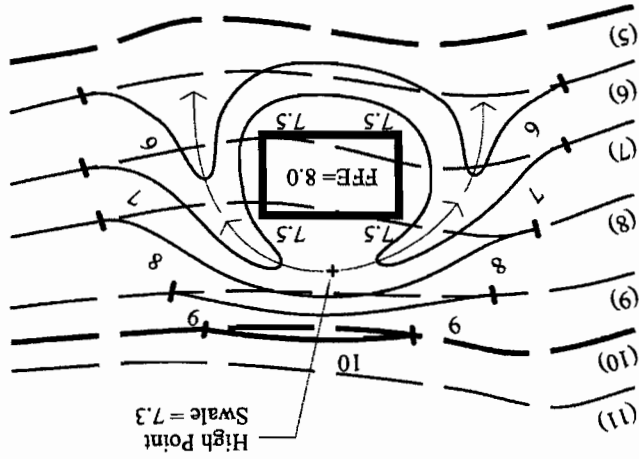

Figure 3-41, Horseshoe Swale to Protect a Level Surface
17. Contour signature representing a horseshoe swale around a level slab. The horseshoe swale is used to protect a level slab from downslope runoff. To understand how this protection is accomplished, study Figure 3-41. Note that runoff is intercepted by the swale and taken around and away from the structure. See Chapter 4 for more on horseshoe swale design for both level and sloping surfaces.